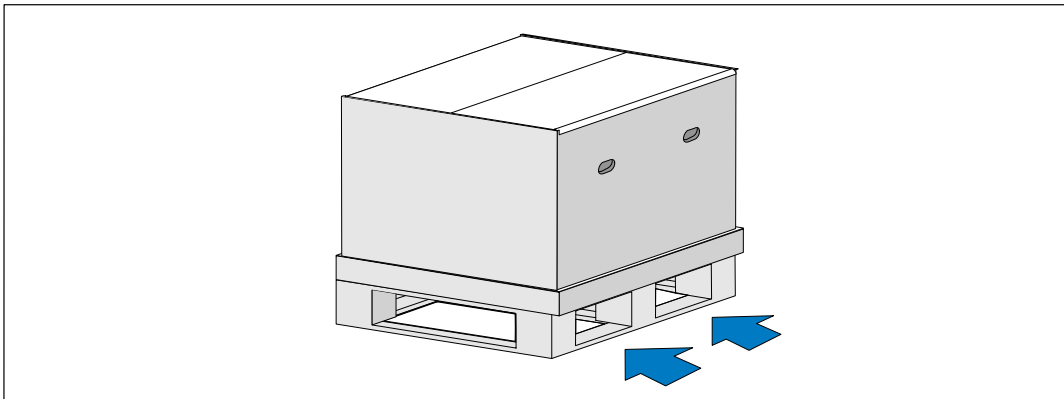

Figure 3. Lifting the Pallet with Shipping Carton
- 1 Using a forklift or pallet jack, move the shipping carton and pallet near the rack where you will install the UPS (see Figure 3).